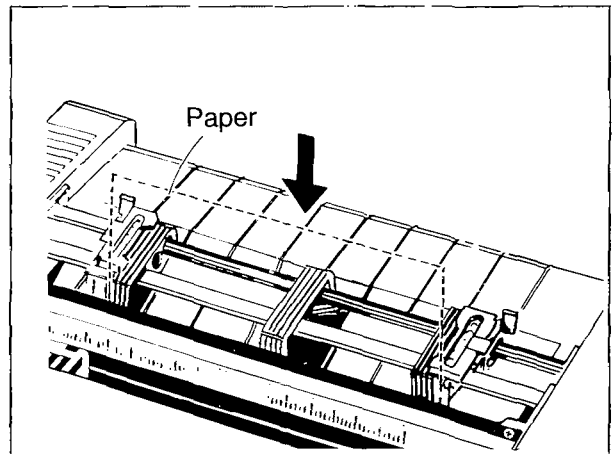

Figure 2.5B Inserting a Single Sheet
- Feed the paper into the printer as shown in Figure 2.5B. The printer will grip the paper and rotate it about half-way around the platen.